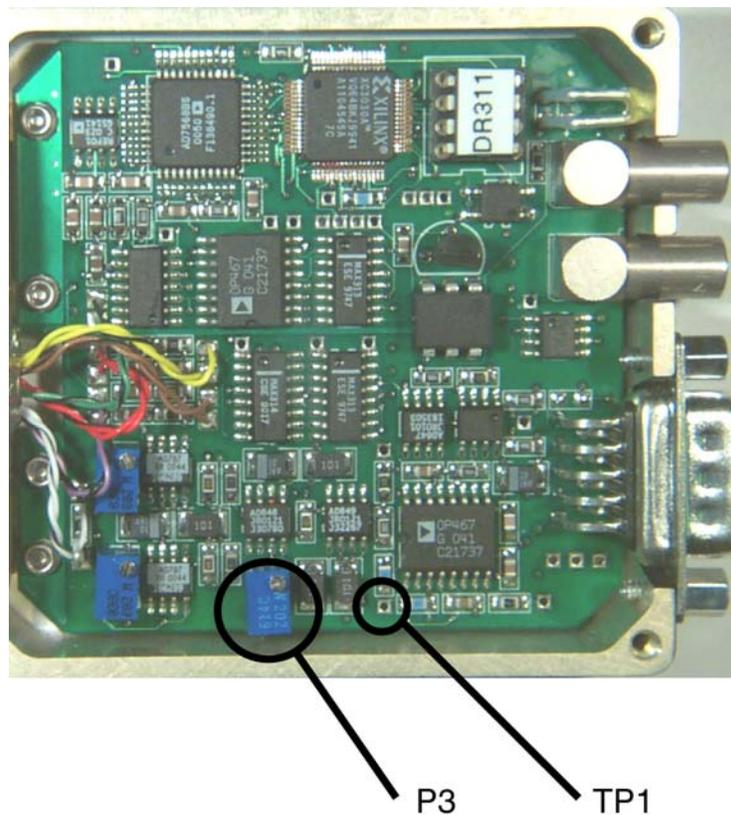

Figure 5-5 Location of the trim pot P3 used to adjust the common mode rejection and test point TP1.
3. Locate test point TP1 to the right of the trim pot P3 (see Figure 5-5). Using an oscilloscope probe, measure the signal at TP1, and adjust P3 to minimize the signal.